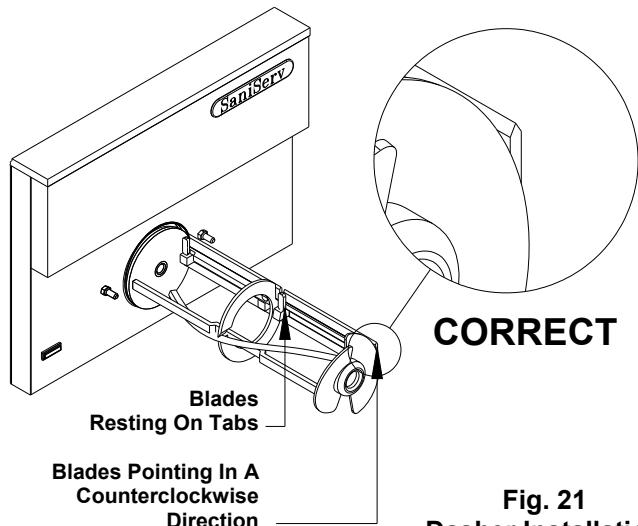
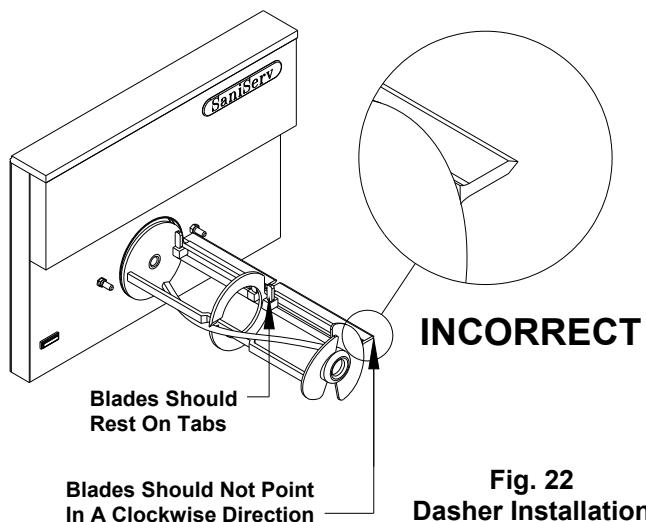

Fig. 21
Fig. 22
- e. Insert the dasher assembly into the freezing cylinder as far as possible (Fig. 21) being careful not to damage the scraper blades. Damage will occur to the scraper blades and the dispenser will not operate properly if the scraper blades are installed facing in a clockwise direction (Fig. 22).
Note: The stator rod has been deleted from Fig. 21 and Fig. 22 for clarity only. The stator rod must be installed for proper machine operation.